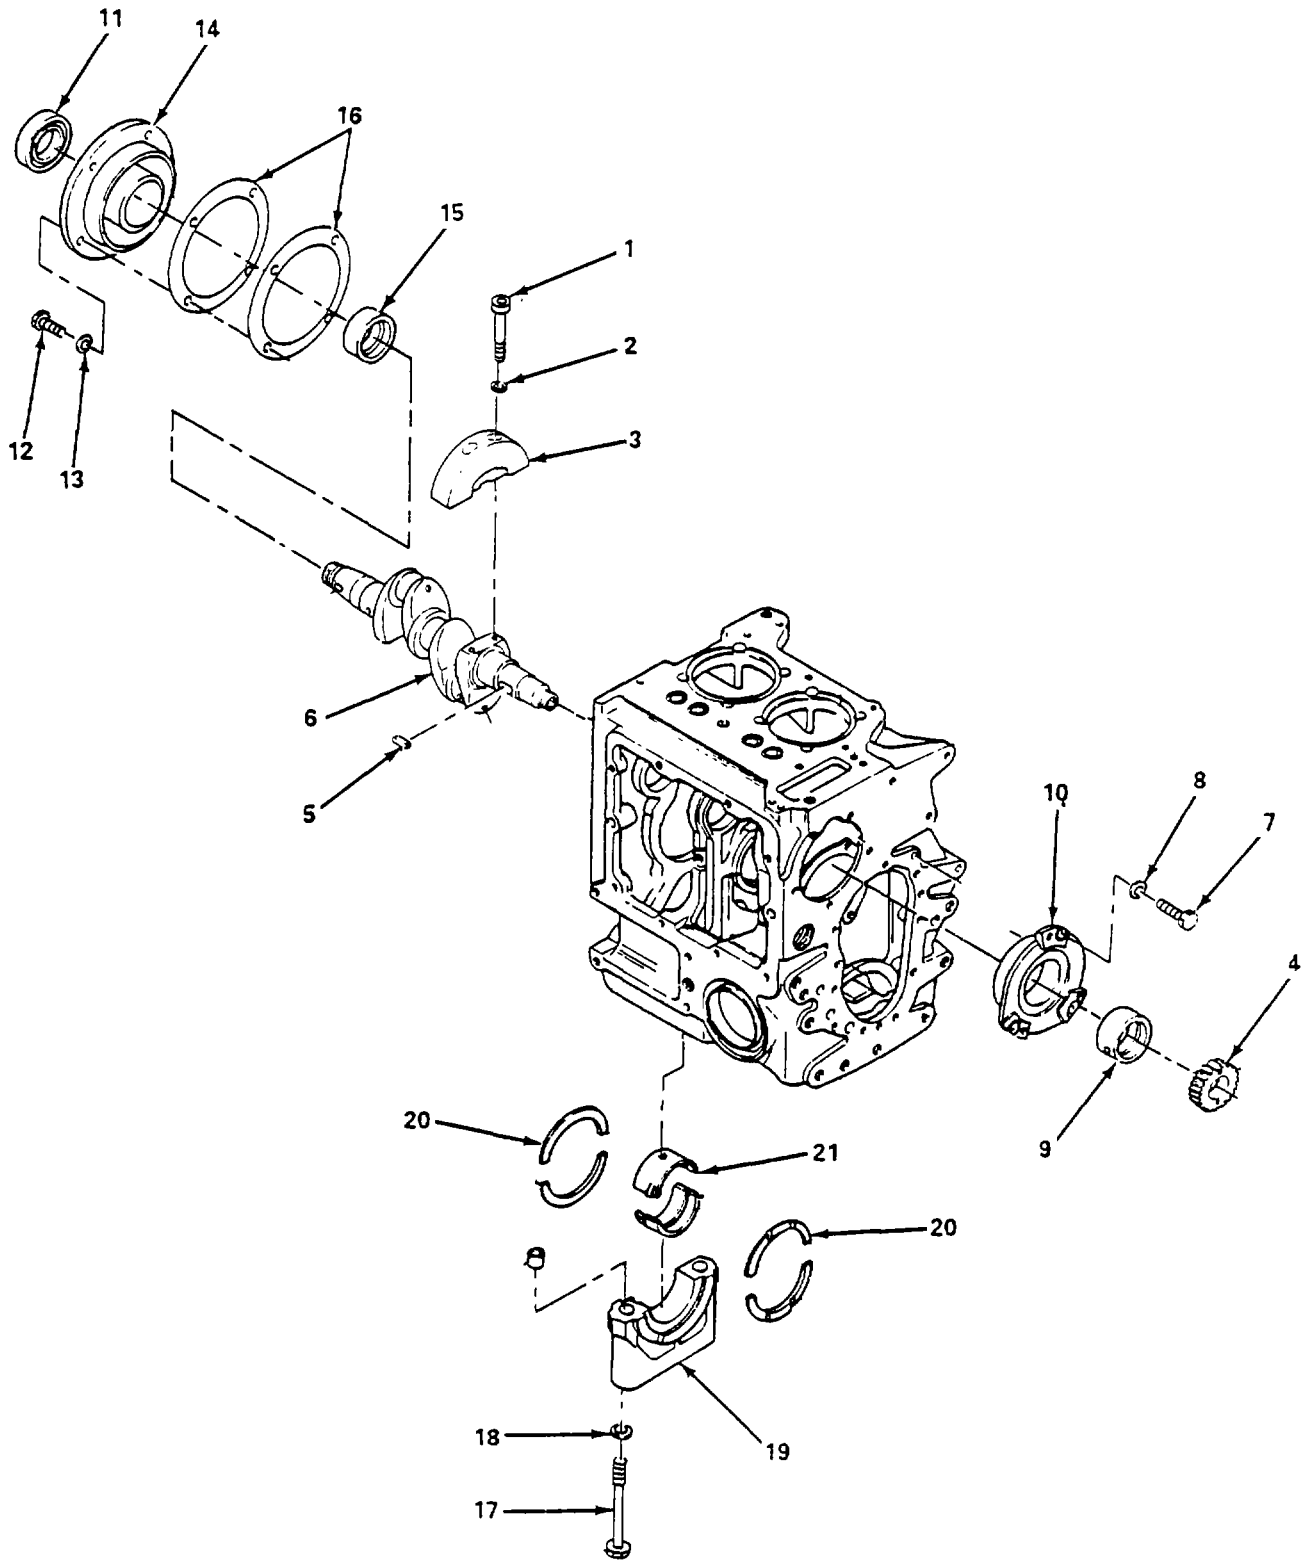

Figure 6-22. Crankshaft, Removal.
- (1) Removal. (figure 6-22)
- (a) Remove two bolts (1), washers (2), and remove counterweight (3).
- (b) Remove gear (4) and key (5) from crankshaft (6).
- (c) Remove three bolts (7), washers (8) and remove bearing (9) and bearing housing (10) using puller device.
- (d) Using puller, remove sealing ring (11).
- (e) Remove four bolts (12), lockwashers (13) from bearing housing (14).
- (f) Using puller device, remove bearing housing (14) and bearing (15).
- (g) Remove two gaskets (16).
- (h) Remove two bolts (17), lockwasher (18), and bearing cap (19).